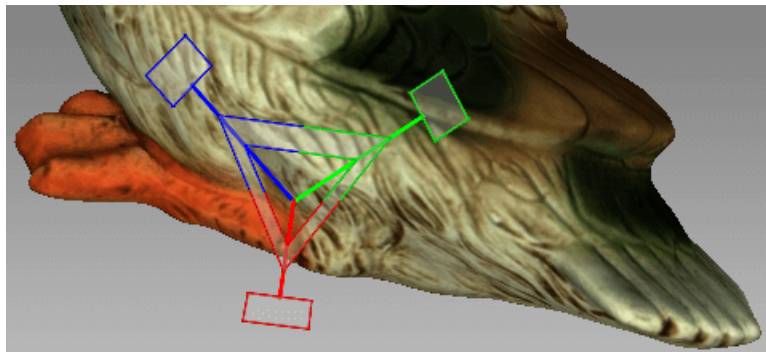

Figure 102: Scaling control
- Drag the origin of the control (Figure 102) or either of its round ends in the *3D View* window.